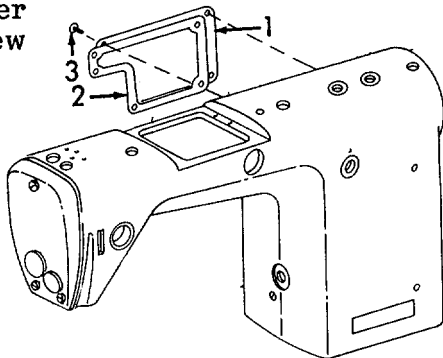

Figure 6-79. Side Cover, Installation.
- (11) Refer to Figure 6-79. Install a new gasket (1) into position.
- (12) Install cover (2) into position.
- (13) Install five screws (3).